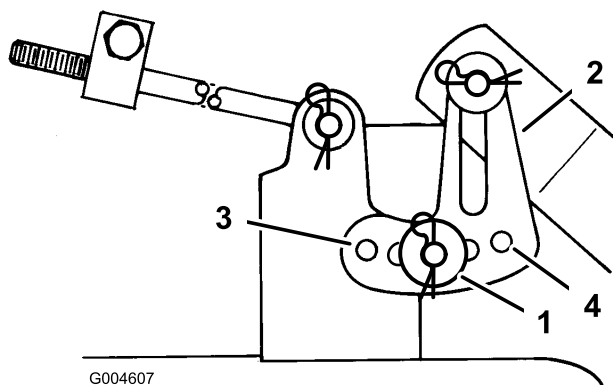

Figure 45
11. Remove the hairpin cotter and washer from the leveling bracket (Figure 45).
12. Position the leveling bracket in a different hole and install the washer and hairpin cotter (Figure 45).